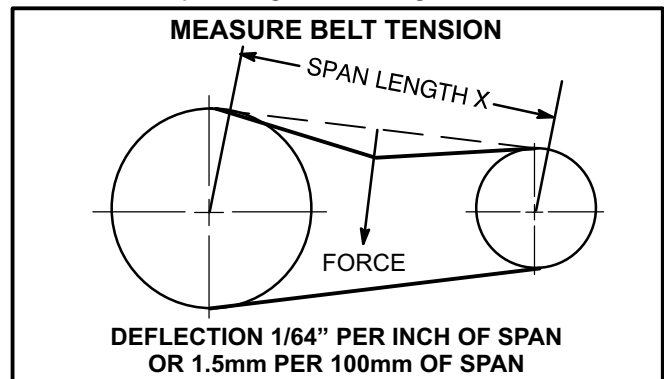

FIGURE 13
- 1- Measure span length X. See figure 13.